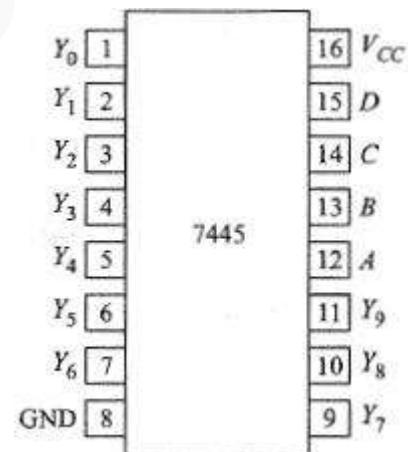

Figure 4.19: Pinout diagram of 7445
- **7445** is called a BCD-to-Decimal decoder (Figure 4.19).